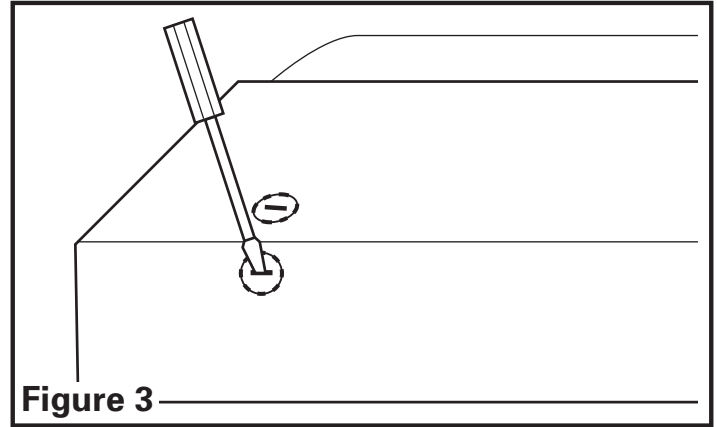

Figure 3
1. Determine where the electrical service will enter the hood and remove the appropriate electrical knockout by inserting a screw driver into the slot and rocking back and forth until the knockout comes loose (Figure 3).